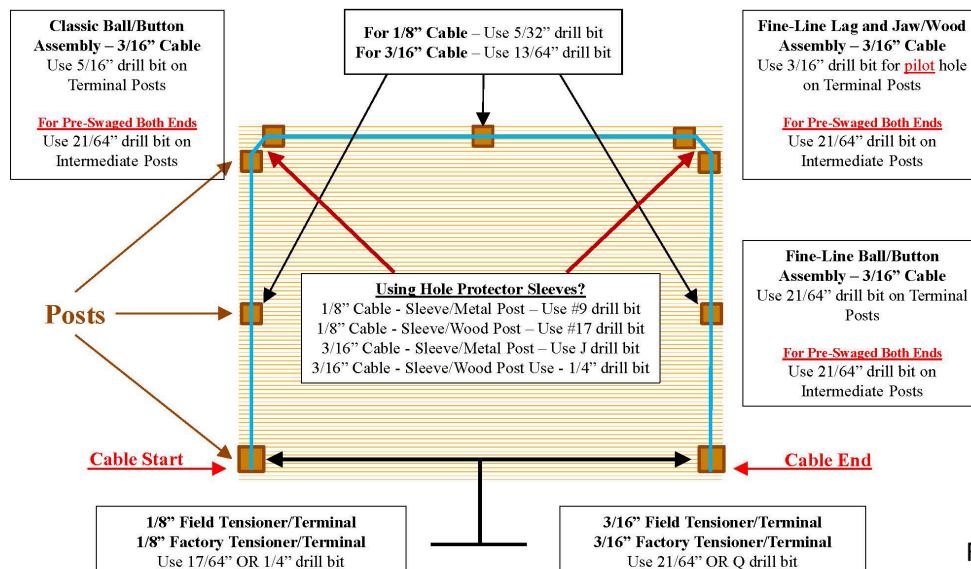

Fig 2
3. Do you need to drill holes for the cables? (Fig. 2).